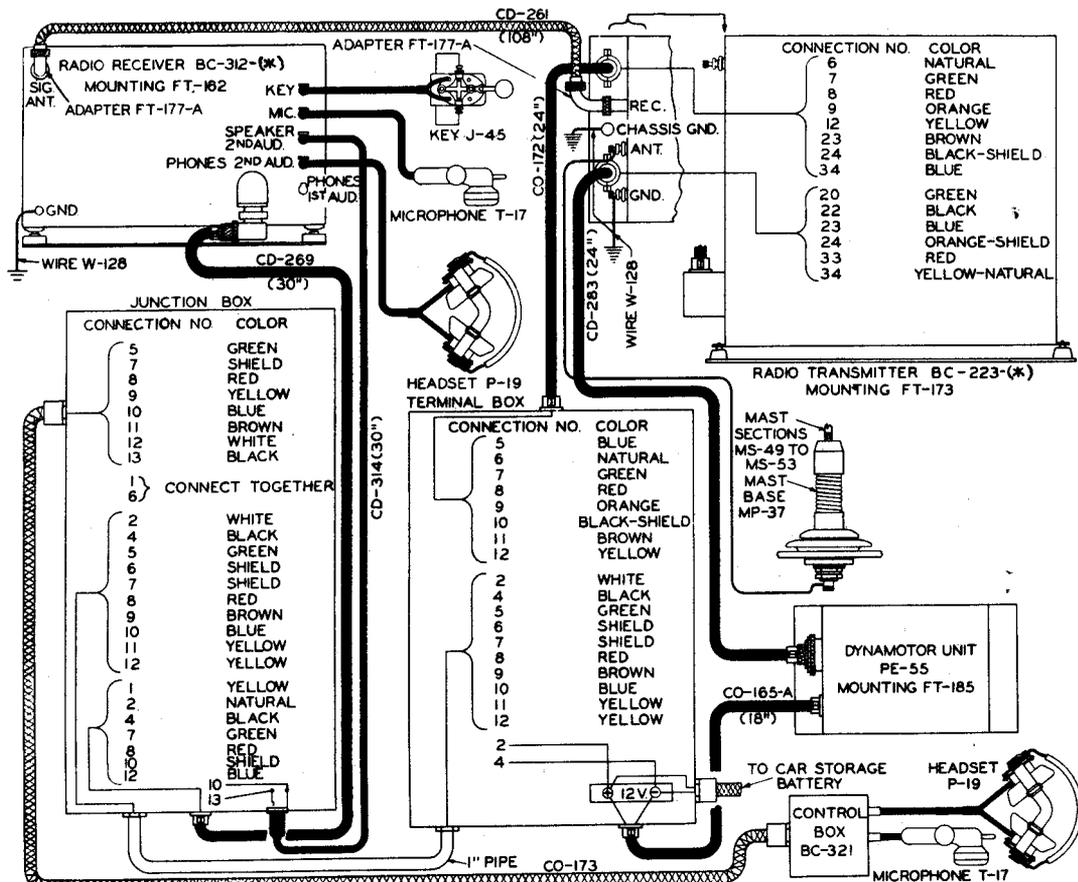

Fig. 1.—Cording diagram—SCR-245-A-B
**BREAK-IN OPERATION OF RADIO SET SCR-299-A, B, C.** Circuit modifications to obtain this feature are outlined below, and in figures 1, 2, and 3. A certain number of these sets have been modified in accordance with this data, and this information should assist shop personnel when servicing these units. Future modifications will be made ONLY when authorized by proper authority, and where found to be ABSOLUTELY NECESSARY. In the event that modified sets come into the shop for repairs, they should not be changed back to original form.